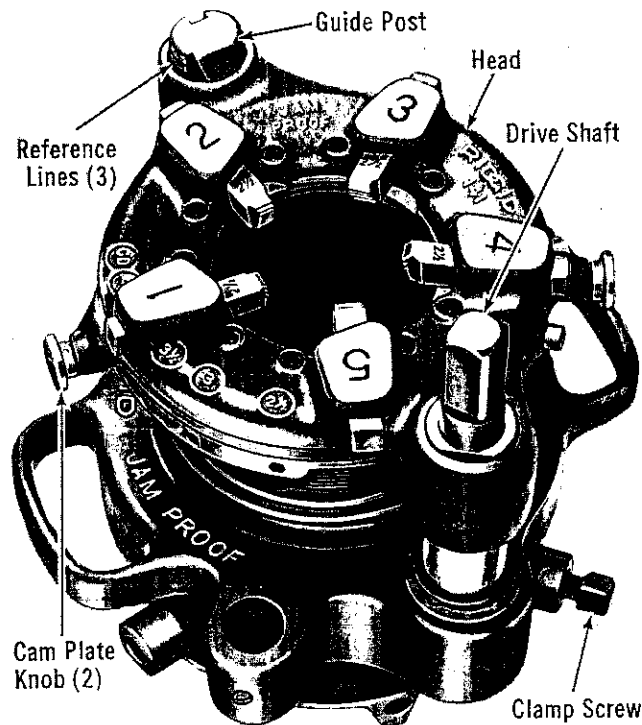

Figure 17. No. 141 Geared Threader with Drive Shaft Up.
2. Pull knobs (Fig. 17) of Cam Plate and rotate Cam Plate to desired pipe size marking on top of Die Head. Release Knobs when Locating Pins drop into holes in Selector Plate.
2. Pull Knobs (Fig. 17) and rotate Cam Plate to CD mark on top of Die Head.